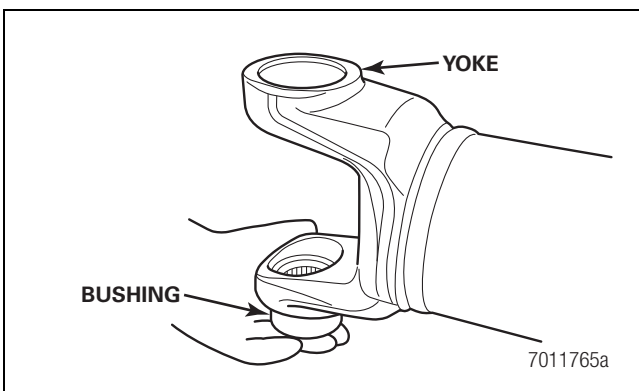

Figure 4.70
2. Install the bushing in the bottom of the yoke. Figure 4.70.